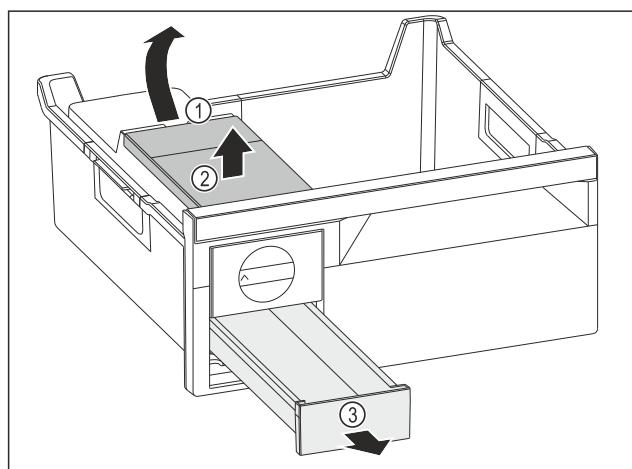

Fig. 123
- Removing the water tank: Lift the water tank by the recess Fig. 123 (1).
- Remove the water tank Fig. 123 (2) upwards.
- Remove the ice cube drawer Fig. 123 (3) to the front.